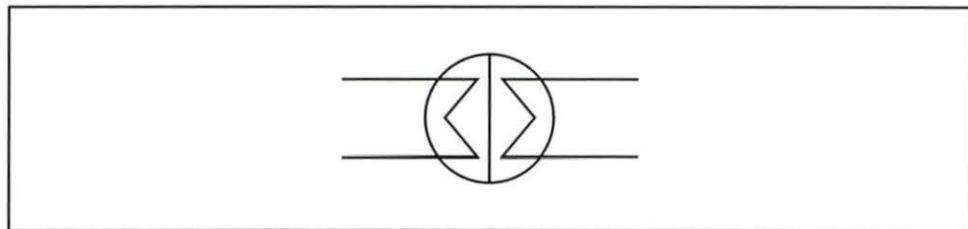

Figure 70. Thermal System Component
6. Determine which type of component symbol is shown in figure 70.